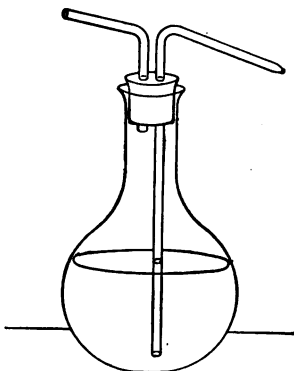

FIG. 32.
M. We must use pure water for our chemical experiments in order not to mix other substances with our solutions. We keep this water in a vessel in order that we may conveniently use it. First I cut off a piece of glass tube half as long again as the height of this flask; and then a short piece. I hold the long bit in the flame and turn it round till its edge softens; it contracts, and when the opening is reduced to half a millimetre I let it cool. Then I bend the short tube to an obtuse angle, and the long one, after the end has cooled, to an acute angle; and lastly I round all the ends. And now I bore a cork that fits the flask with two holes, stick the tubes through, and my wash-bottle is ready (Fig. 32). Now we will fill it with distilled water, after having washed it out several times.